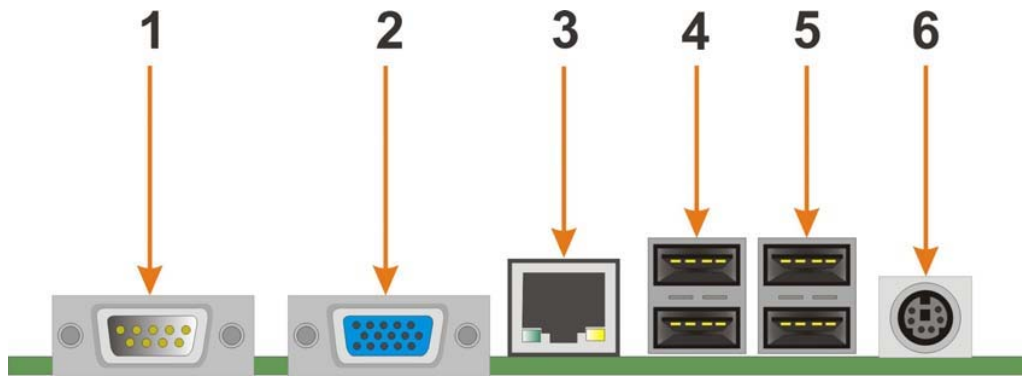

Figure 3-26: 3302150 Board Rear Panel
Figure 3-26 shows the 3302150 board rear panel. The peripheral connectors on the back panel can be connected to devices externally when the 3302150 is installed in a chassis. The peripheral connectors on the rear panel are:
- CN Location:** See Figure 3-26 (labeled number 3)
- CN Location:** See Figure 3-26 (labeled number 6)
- CN Location:** See Figure 3-26 (labeled number 1)
CN Location: See Figure 3-26 (labeled number 4 & 5)
CN Location: See Figure 3-26 (labeled number 2)